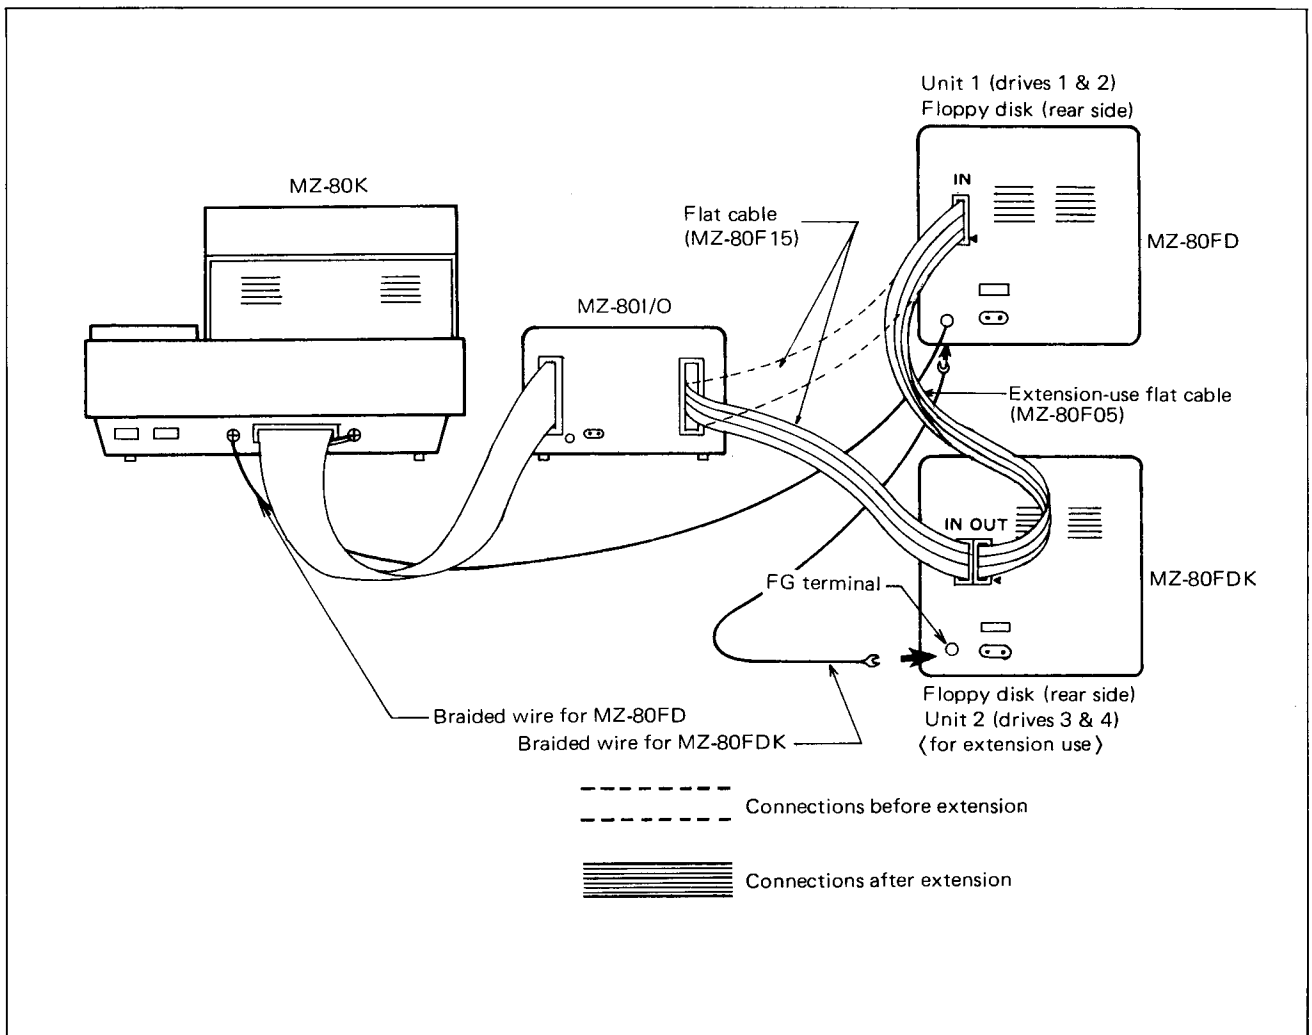

Fig. 4 How to Extend the Floppy Disk
- Connect the flat cable removed in a) above to the input connector (IN) of unit 2 (drives 3 & 4) which is for extension use. (See Figure 4.)
- Connect another connector of the said flat cable to the input connector (IN) of unit 1 to which the flat cable removed in a) has been connected.